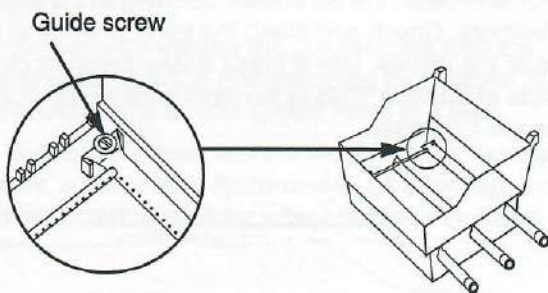

Figure 15
- f) Slide the burner assembly out from under the guide screw and washer in the corners of the cooking box. Figure 15.